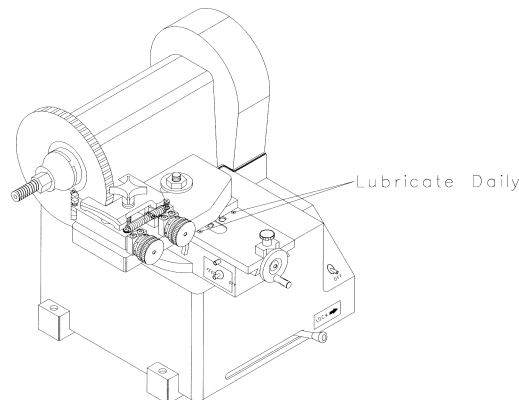

Fig. 1
- Lubricate tool carriage ways and ALL lube points (Fig.1) with a good grade of lubricating oil.